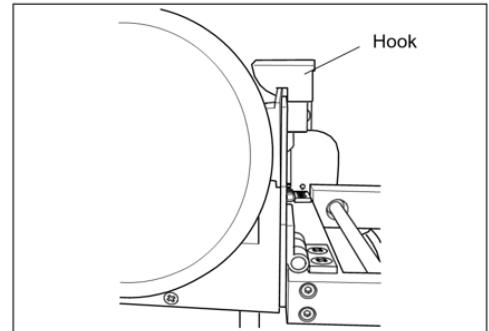

Figure 7
- Make sure that the rim of back side of the oxygenator and the hook of the exclusive holder are connected to the slide hook (Figure 7).